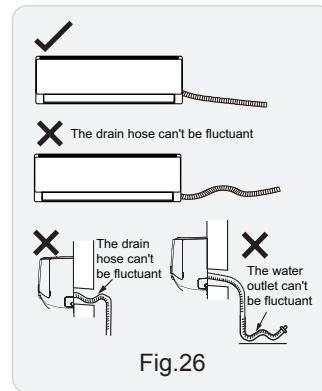

Fig.26
(2) Slant the drain hose slightly downwards. The drain hose can't be curved, raised and fluctuant, etc.(As show in Fig.26)